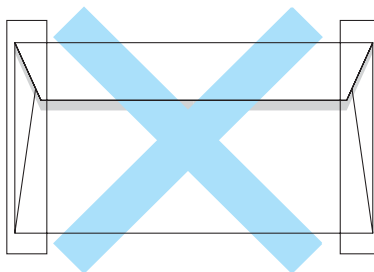

Figure 1-8
- with three or more layers of paper in the marked area in Figure 1-8 or